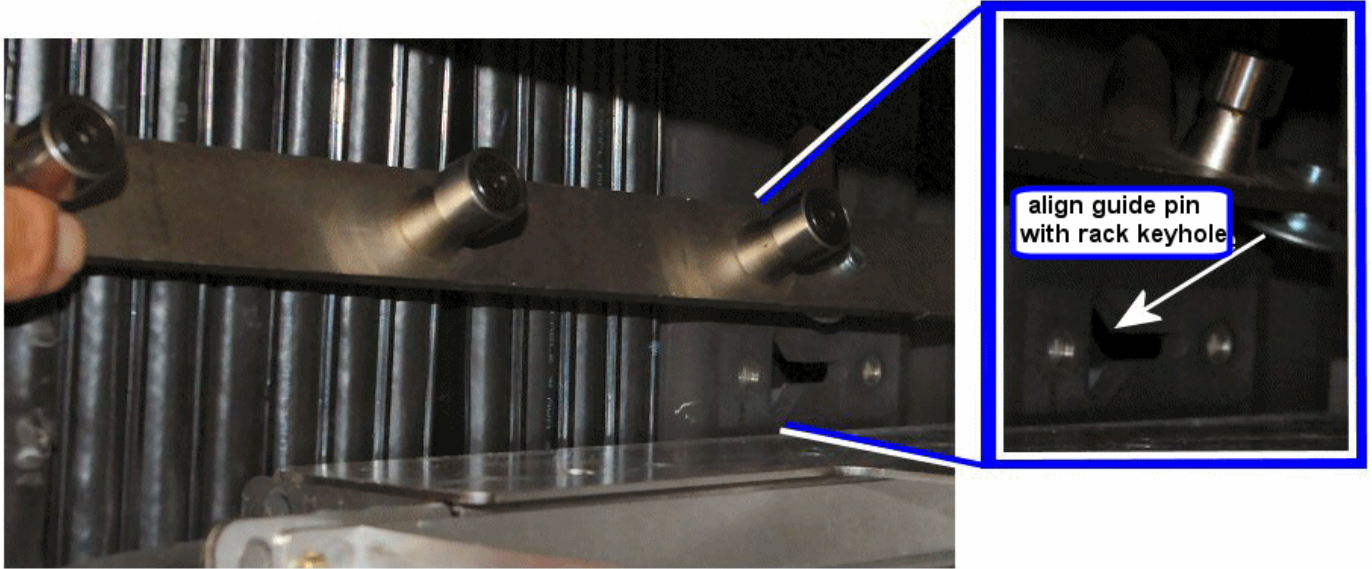

Figure 33 Guide pin vs rack keyhole alignment
- b) Align and insert the two guide pins on the back of the rail into the key holes in the Rack. See Figure 33.